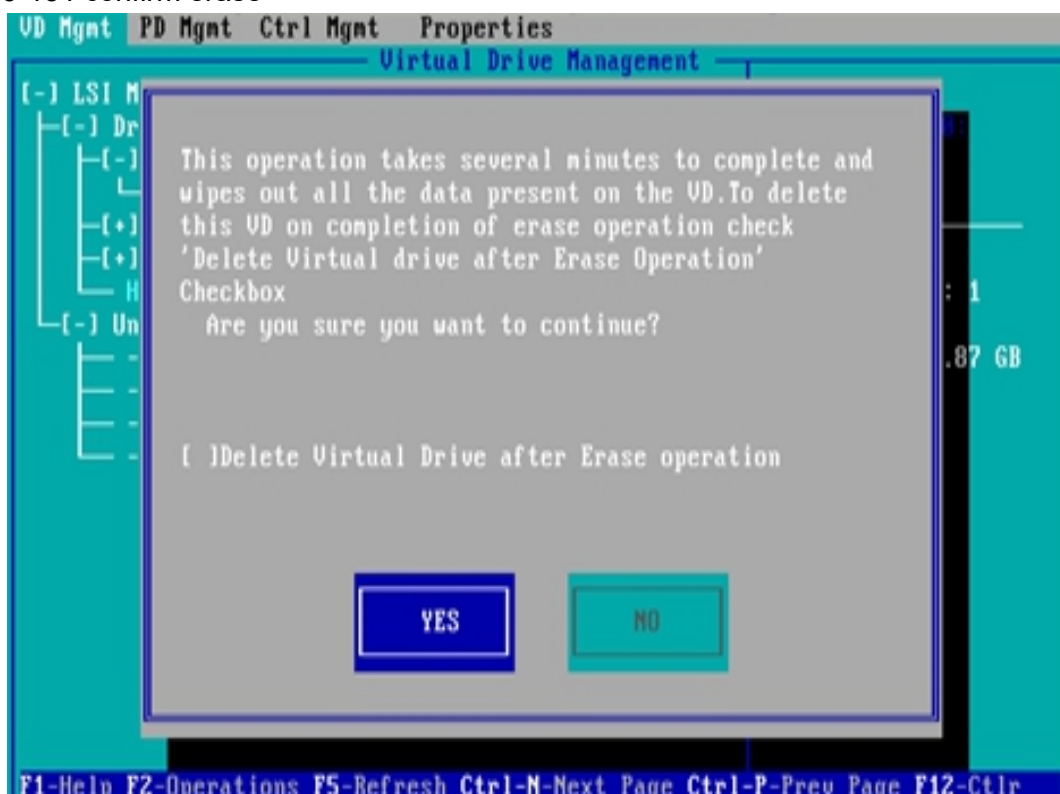

Figure 6-131
- c) Enter the interface shown in figure 6-131, select Yes, and press enter to complete the operation of erasing logical disk data.
- ✧ Figure 6-131 confirm erase